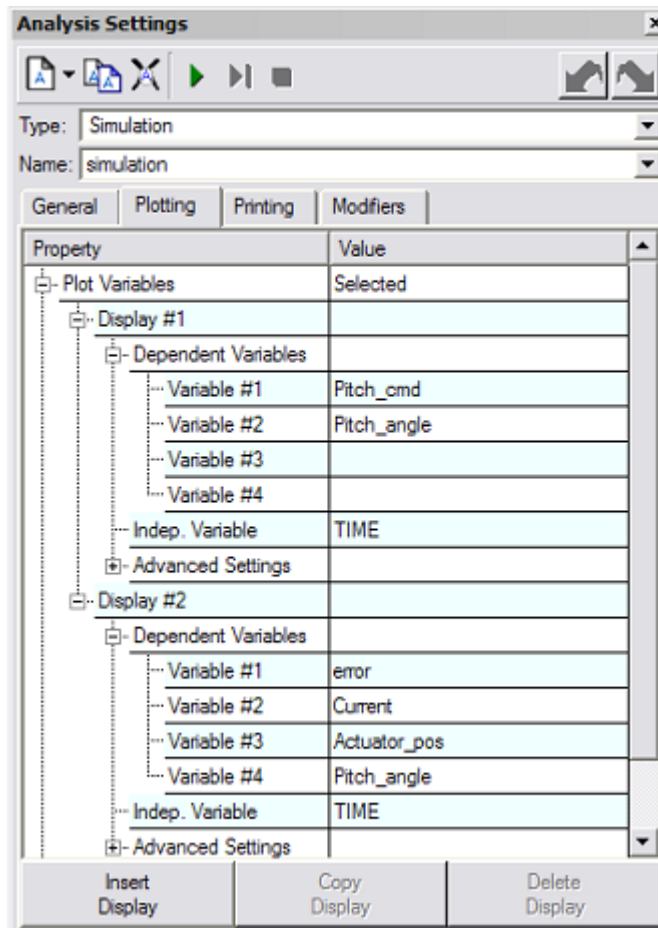

Figure 128 Plot Specification Form
You specify plot variables by selecting the **Plot Variables = “Selected”** on the **Plotting** tab of the simulation form. The simulation plot specification form as shown in Figure 128 appears.
2. Any name can be “picked” from the schematic block diagram (or Model Explorer window). Simply select a component in the schematic (or in the Model Explorer window) and a filtered list of available names will be displayed to select from. Please see “Model Explorer Window” for further information. See Figure 128 for an example of using selected plot variables.